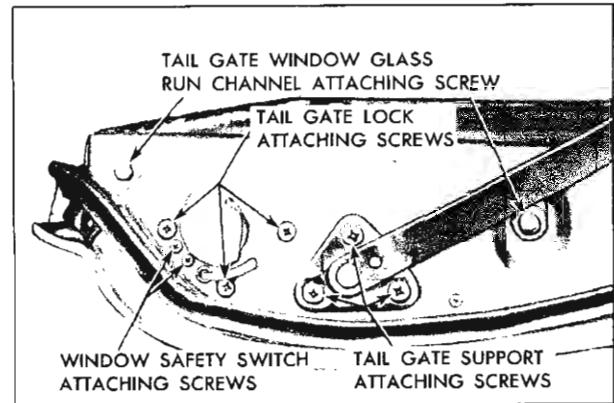

Fig. 5-7 Lock and Support
6. Suitably support tail gate to facilitate detachment of tail gate supports; then remove support attaching screws (Fig. 5-7) from both sides of tail gate and fold tail gate supports against body.